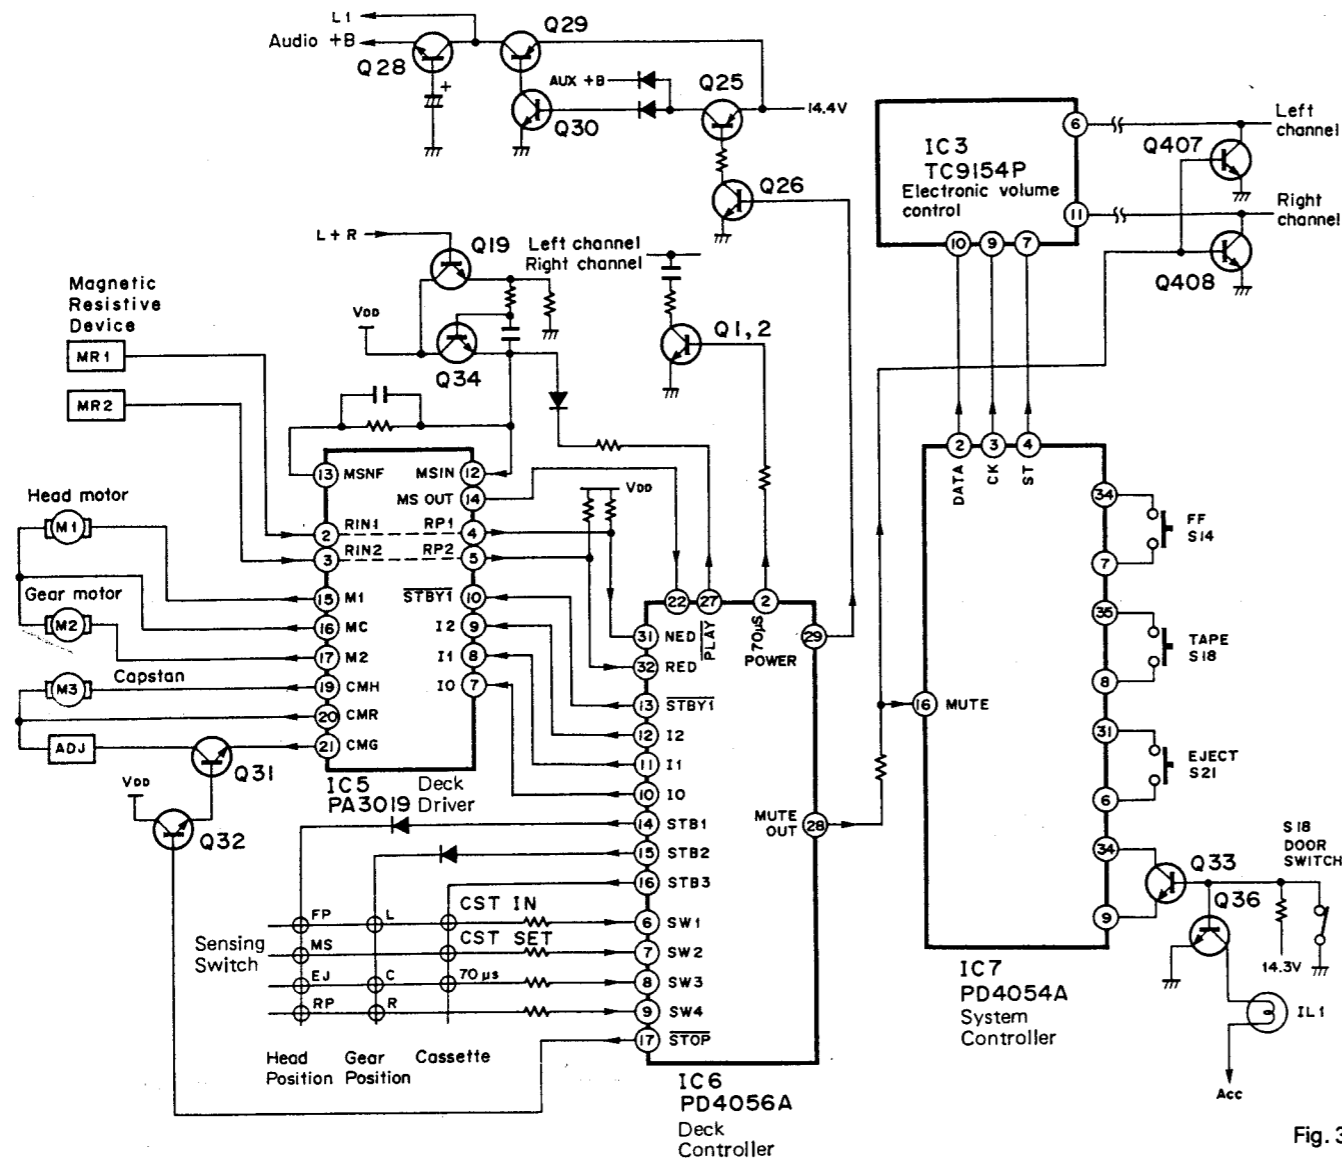

Fig. 31
• Explanation of operation (Refer to Fig. 31)